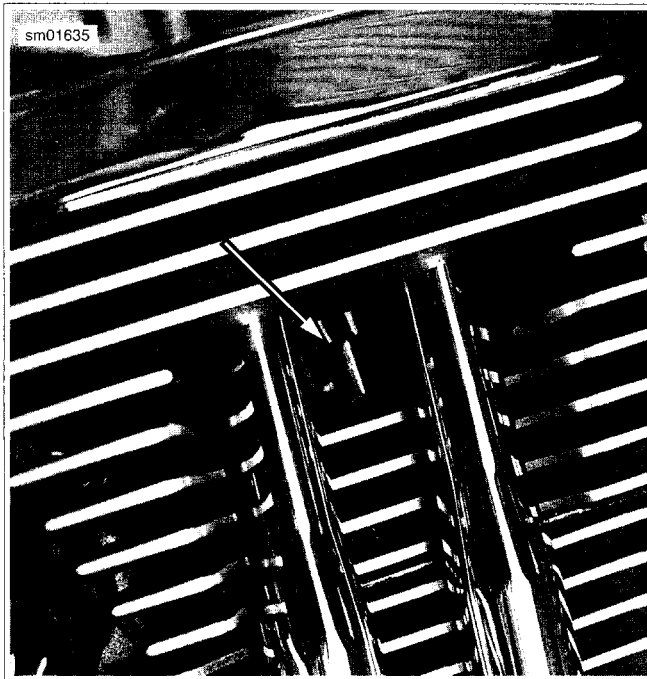

Figure 4-31. Engine Temperature (ET) Sensor Location
See Figure 4-31. The engine temperature (ET) sensor is located in the top of the rear cylinder head.